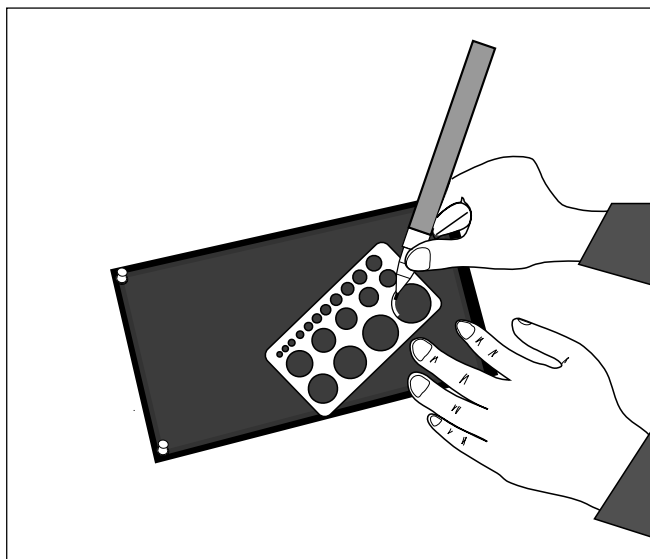

Figure 1
2. Draw the electrodes on the black paper (see Figure 1).